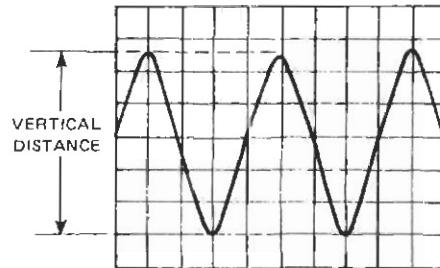

Figure 2-13. Peak-to-peak voltage measurement
2. Adjust the TIME/DIV switch (20) or (21) to display two or three cycles of waveform, and set the VOLTS/DIV switch (11) for the largest-possible totally-on-screen display.
3. Use the appropriate Vertical Position control (14) or (15) to position the negative signal peaks on the nearest horizontal graticule line **below** the signal peaks, per Figure 2-13.
4. Use the Horizontal Position control (24) to position one of the positive peaks on the central vertical graticule line. This line has additional calibration marks equal to 0.2 major division each.
5. Count the number of divisions from the graticule line touching the negative signal peaks to the intersection of the positive signal with the central vertical graticule line. Multiply this number by the VOLTS/DIV switch setting to obtain the peak-to-peak voltage of the waveform. For example, if the VOLTS/DIV switch were set to 2V, the waveform shown in Figure 2-13 would be 11.2V p-p (5.6 div  $\times$  2V).
7. If measuring a sine wave below 100 Hz, or a rectangular wave below 1000 Hz, set the AC/GND/DC switch (13) to DC.